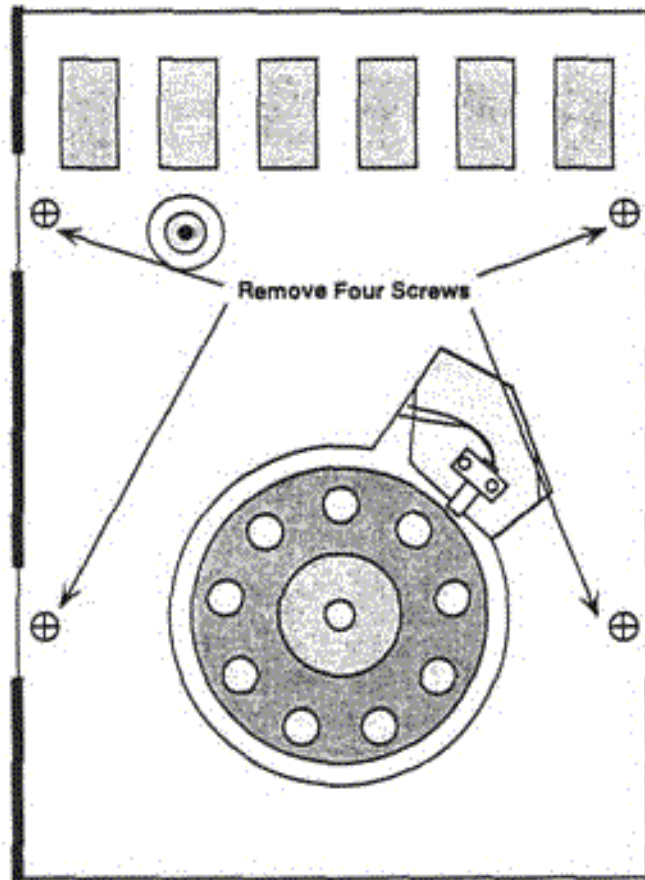

Figure 25
7. Use a #2 Phillips-head screwdriver to remove four screws from the sheet metal support bracket as shown in Figure 25. Lift the bracket away and put it aside.